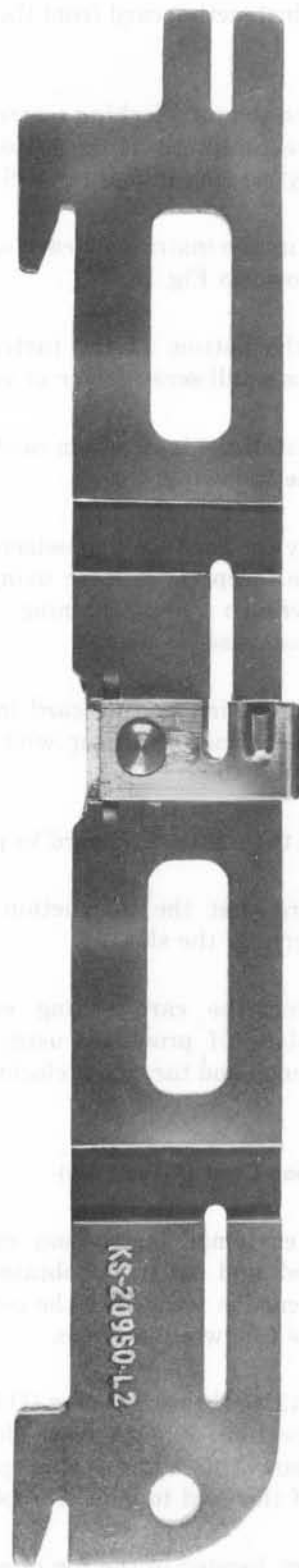

Fig. 69—KS-20950, List 2 Cover Parking Tool
- For 1-type sets, a KS-20950, List 2 cover parking tool shown in Fig. 69 (Note) or a P11C test cord as shown in Fig. 70